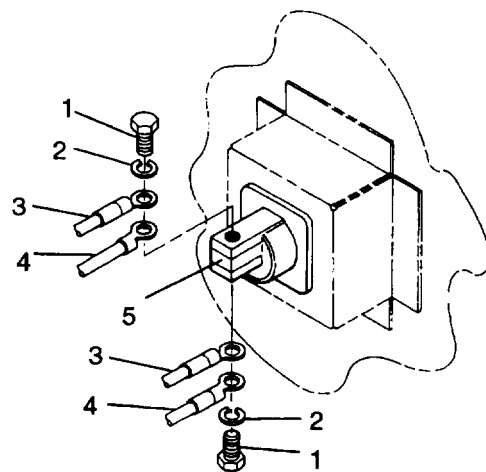
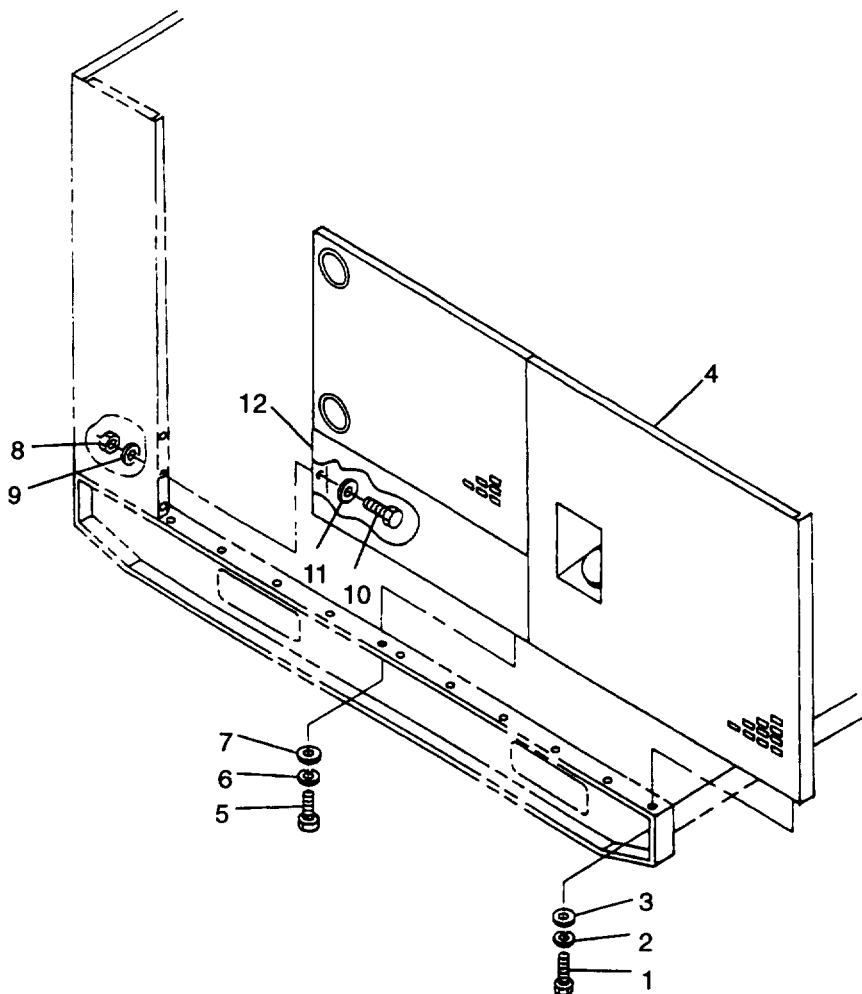
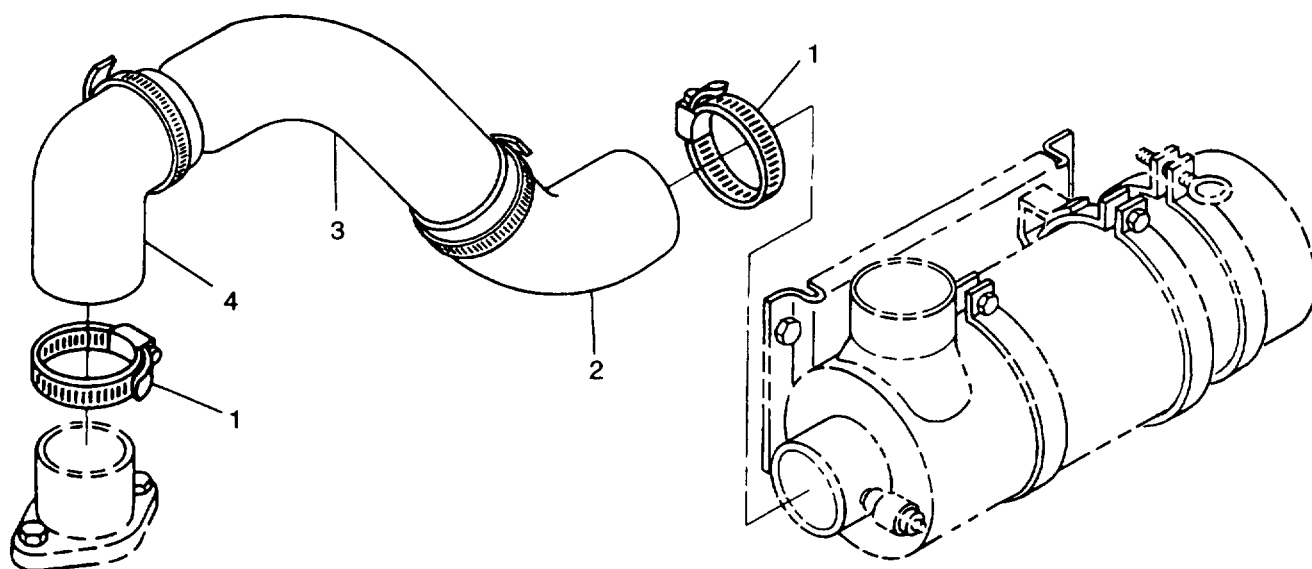

FIGURE 3-9. NATO Slave Receptacle
FIGURE 3-10. Left Side Housing Panels
FIGURE 3-11. Air Cleaner Assembly
- ae. Remove bolts (1, FIGURE 3-9), lockwashers (2), battery cables (3), and slave cables (4) from NATO slave receptacle (5).
- af. Remove bolts (1, FIGURE 3-10), lockwashers (2), and washers (3) securing left rear side panel (4) to skid base.
- ag. Remove nuts (8), lockwashers (6) and (9), washers (7) and (11), and bolts (5) and (10) securing lower left side panel (12) to front housing and skid base.
- ah. With aid of an assistant, remove left rear side panel (4) and lower left side panel (12) as an assembly.
- ai. Loosen clamps (1, FIGURE 3-11) and remove air intake hoses (2), (3), and (4) as an assembly.
- z. Position air intake hoses (2, 3, and 4, FIGURE 3-11) in generator set and tighten clamps (1).
- aa. With aid of an assistant, position left rear side housing panel (4, FIGURE 3-10) and lower side panel (1, 2) on generator set.
- ab. Secure left rear side panel (4) to skid base with bolts (1), lockwashers (2), and washers (3).
- ac. Secure lower left side panel (12) to front housing and skid base with bolts (5) and (10), washers (7) and (11), lockwashers (6) and (9), and nuts (8).
- ad. Connect battery cables (3, FIGURE 3-9) and slave cables (4) to NATO slave receptacle (5) with bolts (1) and lockwashers (2).